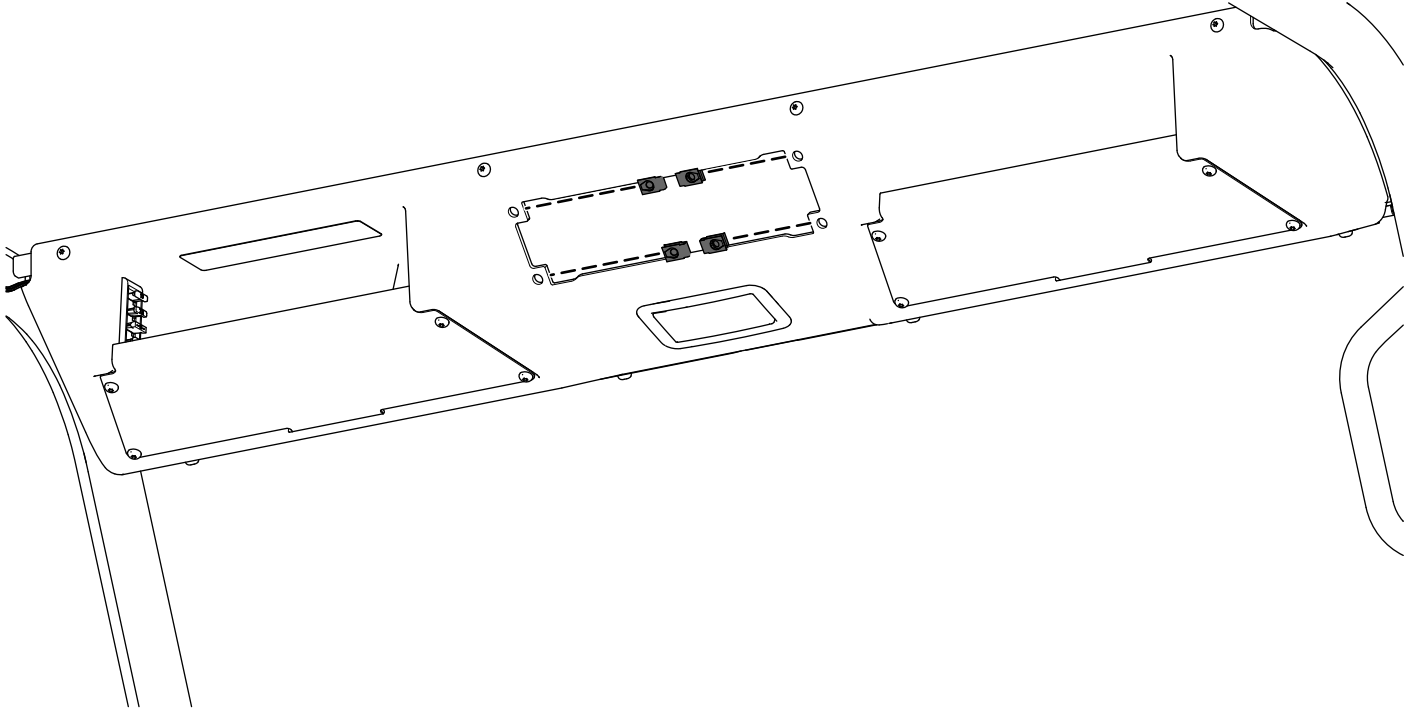

Figure 8
5. Install the 4 speed nuts to the overhead console (Figure 8).